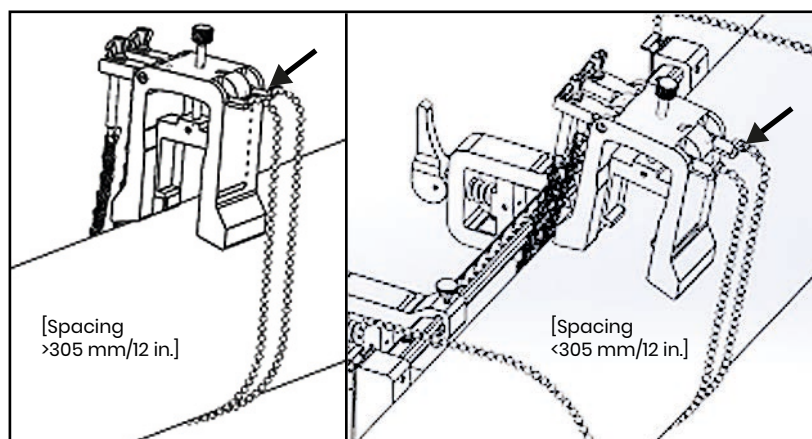

Figure 27: Yoke Chains Secured
3. Wrap the yoke chains around the pipe and secure them to the yoke bracket, as shown in *Figure 27* below.